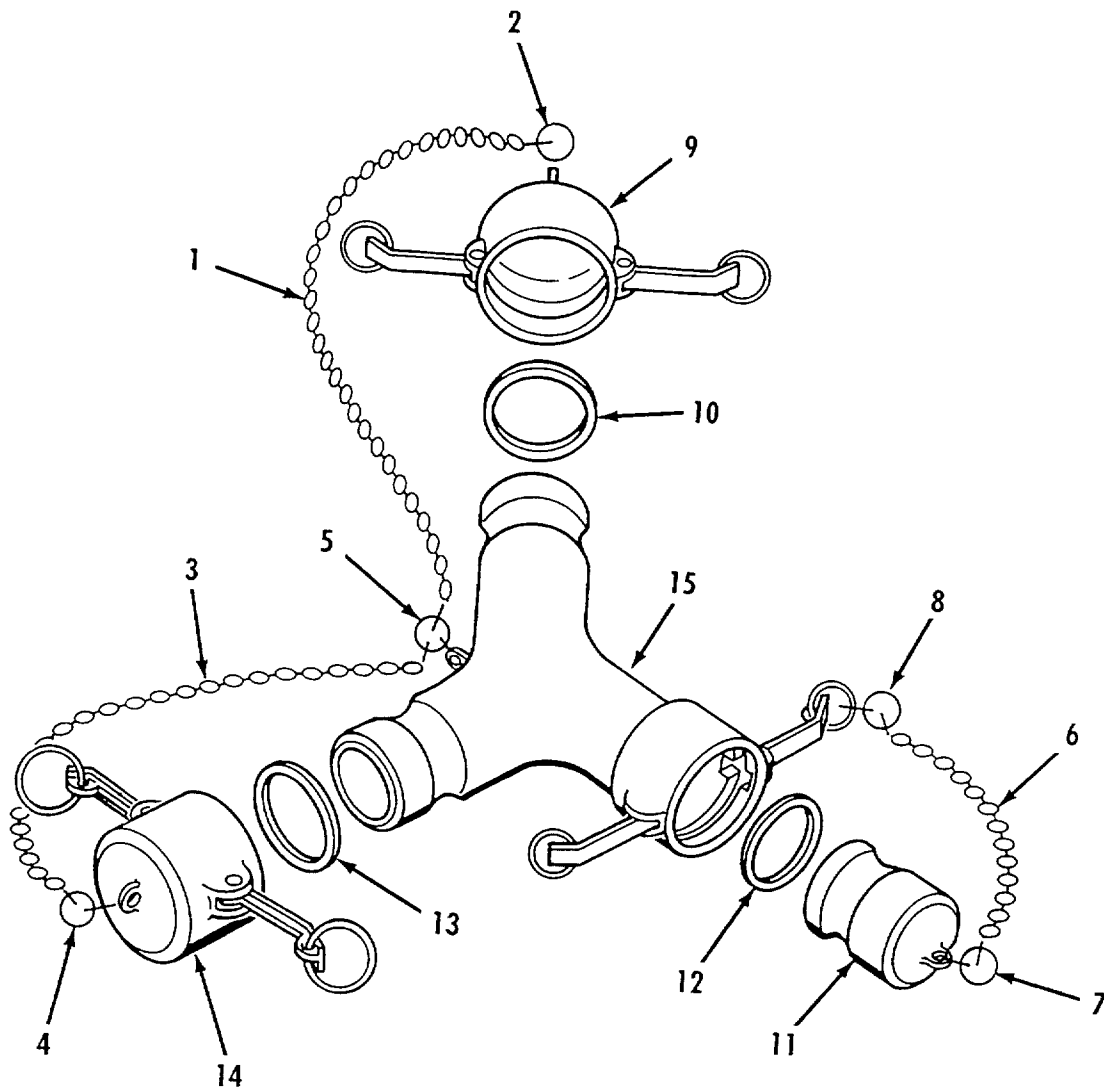

Figure 4-4 . Wye Assembly Repair .
a. Disassembly. Refer to figure 4-4.
- (1) Disconnect chain (1) from split rings (2 and 5).
- (2) Disconnect chain (3) from split rings (4 and 5).
- (3) Disconnect chain (6) from split rings (7 and 8).
- (4) Remove dust cap (9) from body (15).
- (5) Remove gasket (10) from dust cap (9).
- (6) Remove dust plug (11) from body (15).
- (7) Remove gasket (12) from female coupling on body (15).
- (8) Remove dust cap (14) from body (15).
- (9) Remove gasket (13) from dust cap (14).
d. Assembly. Refer to figure 4-4.